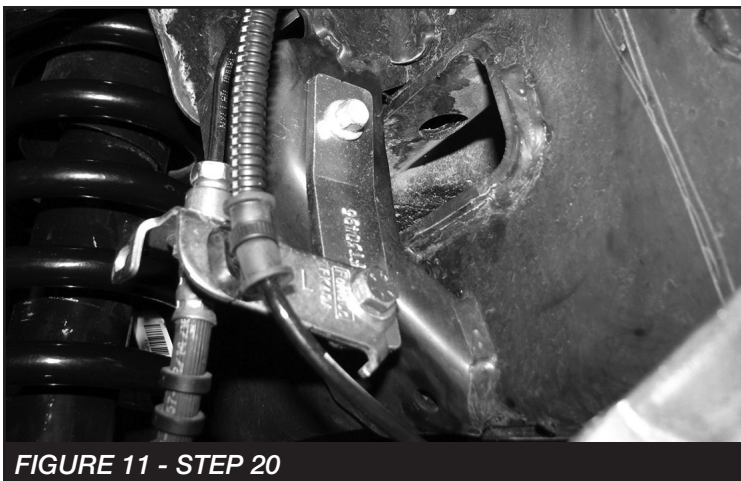

FIGURE 11 - STEP 20
20. Install the new brake line bracket (FT70032) using the factory hardware and supplied 5/16" hardware. Torque to 29 ft-lbs. **SEE FIGURE 11**